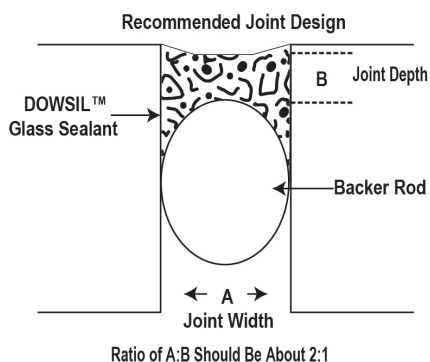

Figure 1.
- Avoid 3 sided adhesion: Apply backer rod or bond breaker tape in the base of the joint to ensure the sealant is only bonded to the sides of the joint and is free to move to its full capacity under joint movement (refer Figure 1).